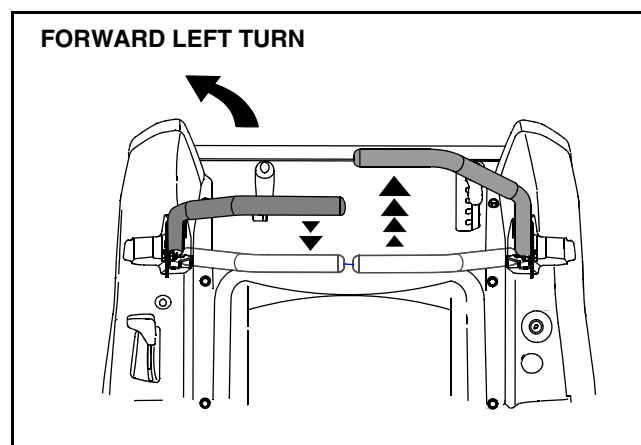

Figure 11
- To turn to the left, move the left drive control lever rearward of the right lever. See Figure 11.